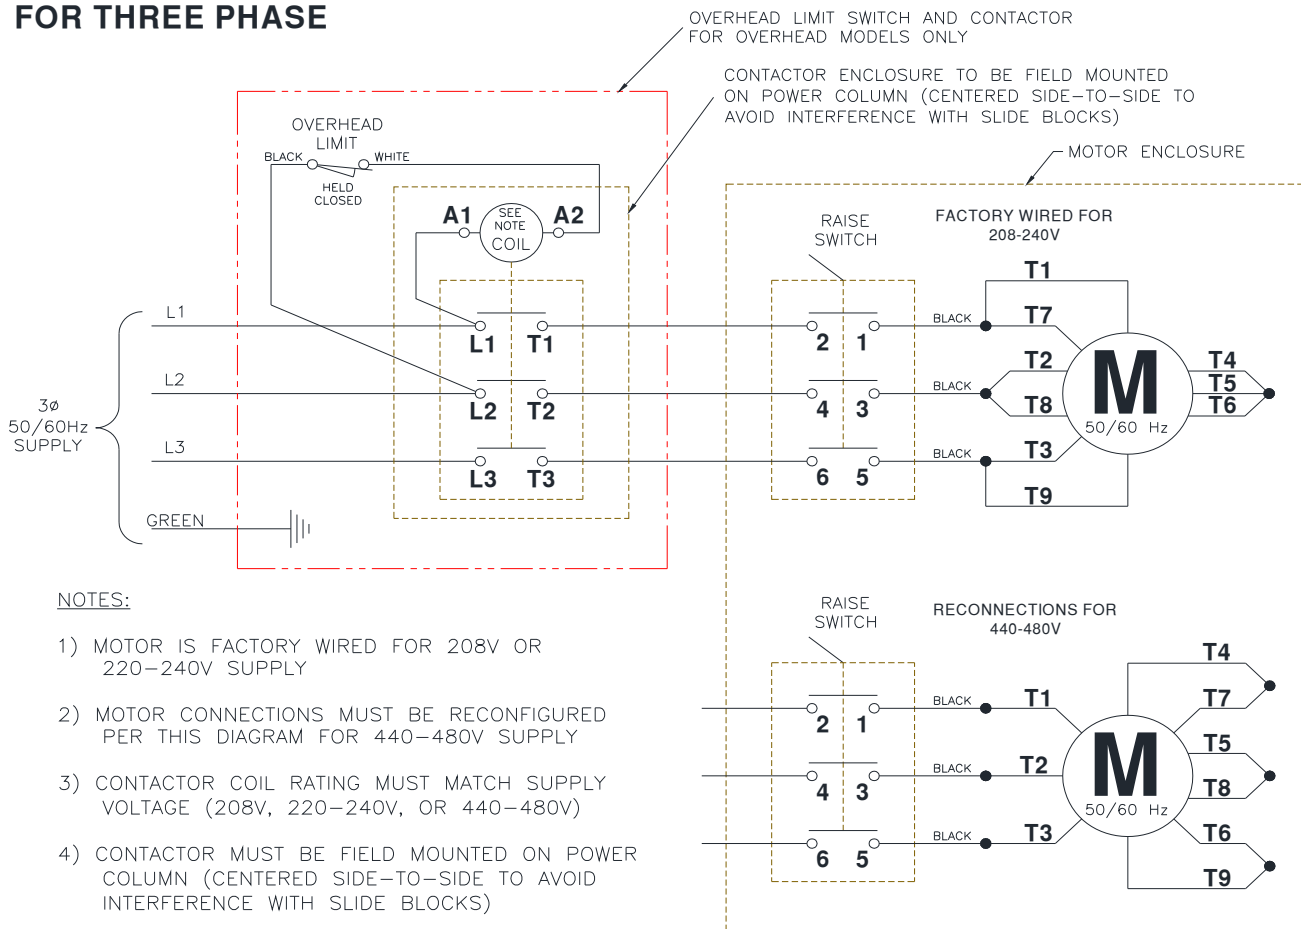

Fig 13 –Electrical Wiring Diagram
- 35) Refer to **Fig. 13 Wiring Diagram** for all steps under this heading.